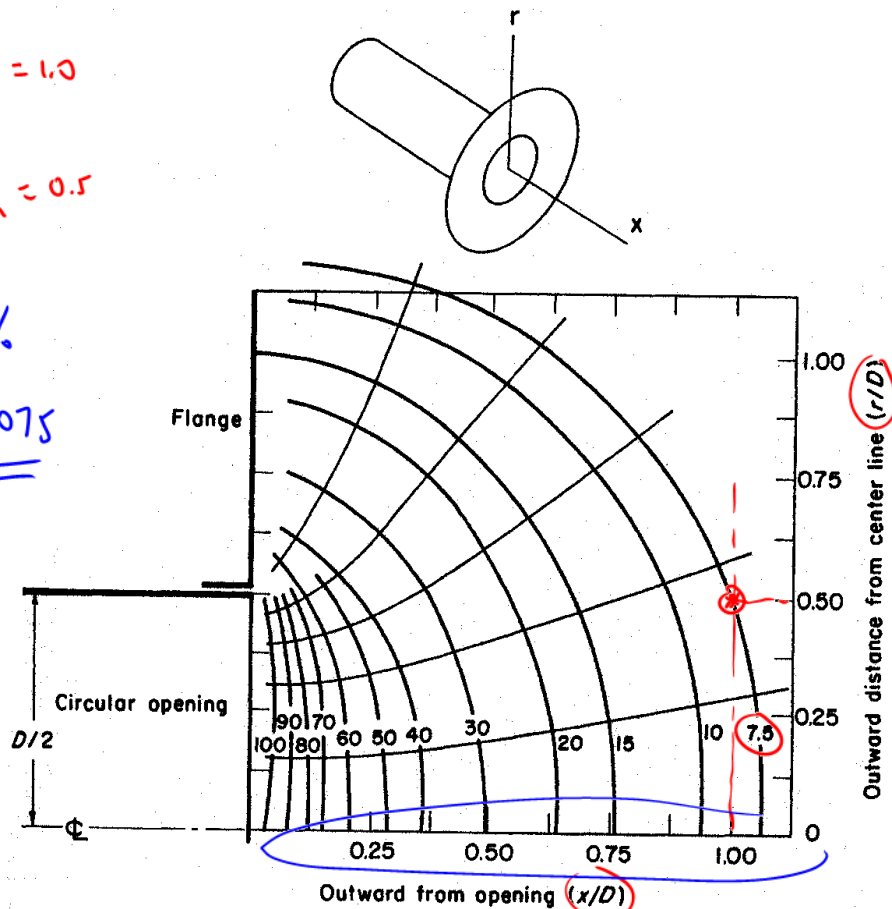

Figure 6.10 Velocity isopleths (curves of constant U/U_{face} , %) for a flanged circular opening (adapted from ASHRAE HVAC Applications Handbook, 1995).
Step 3. Calculate U/U_{face} . Here, Figure 6.10 is the appropriate isopleth plot.